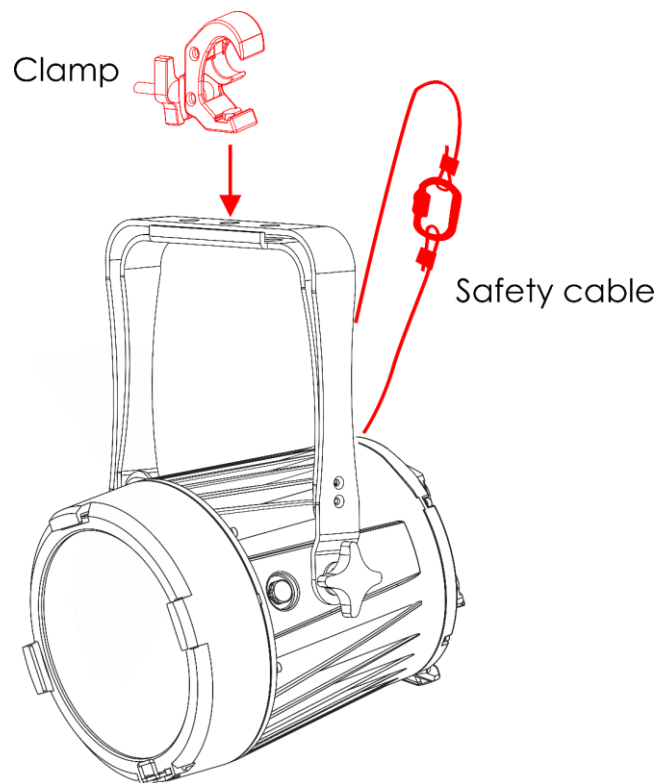

Fig. 09
- 01) Use a clamp to attach the device to the supporting structure, as shown in Fig. 09. Make sure that the device cannot move freely. The use of a quick lock bracket is optional.
- 02) Secure the device with a secondary suspension, for example a safety cable. Make sure that the secondary suspension can hold 10 times the weight of the device. If possible, the secondary suspension should be attached to a supporting structure independent of the primary suspension. Put the safety cable through the **safety eye (08)**, as shown in Fig. 09. You can use the safety cable supplied with the device.